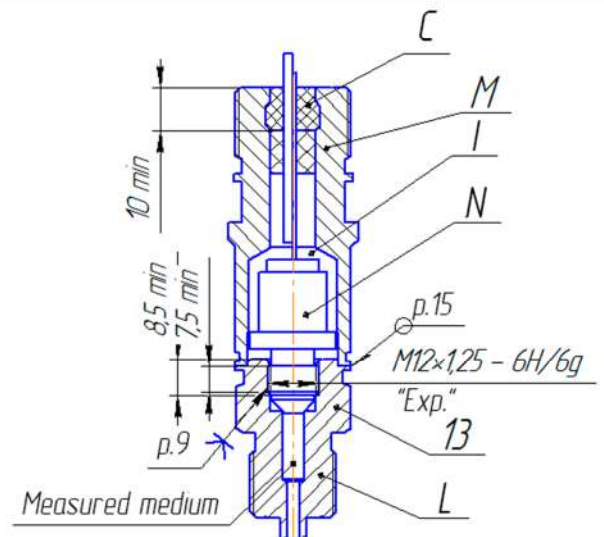

Figure E.4 - For modifications of gauge pressure transmitters with an upper measurement limit of more than 600 kPa. The rest see fig. E.1
12 Cavity I (Fig. E.4) of the pressure transmitter pos. 13 is filled with air at atmospheric pressure. The volume of the cavity I is 6 cm.